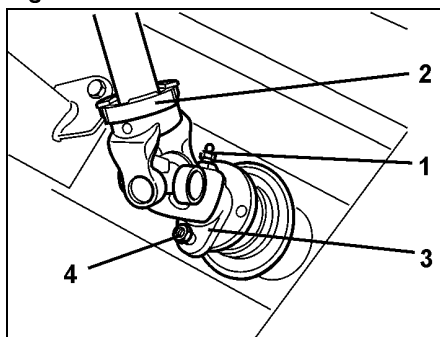

Fig. 15
- Slacken grease nipple (Fig. 15/1).
- Push on pto shaft (Fig. 15/2).
- Affix connecting yoke (Fig. 15/3) with shear bolt (Fig. 15/4).
- Tighten grease nipple (Fig. 15/1).